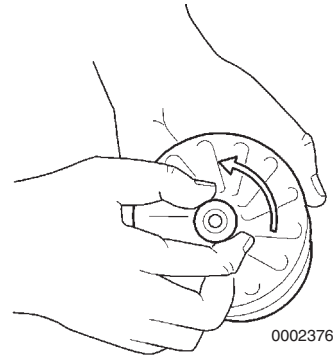

Figure 2
2. Lift out the rotor and turn the nut on the rotor bowl counterclockwise three turns (Figure 2).